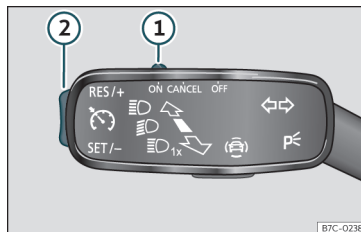

Fig. 155 On the turn signal lever: controls for operating the GRA.
- Move the control»» **Fig. 155 ①** to **ON**.
- Press button»» **Fig. 155 ②** in area **SET/-**.
- Move the control»» **Fig. 155 ①** to **CANCEL** or step on the brake.
- Press button >>> Fig. 155 ② in area RES/+.
While the GRA is set, the stored speed can be adjusted with button >>> Fig. 155 ②:
- To increase in increments of 1 km/h (1 mph) briefly press button >>> Fig. 155 ② in the area RES/+.
- To increase the speed without interruption, keep button >>> Fig. 155 ② pressed down in the area RES/+.
- To reduce in increments of 1 km/h (1 mph) briefly press button >>> Fig. 155 ② in the area SET/−.
- To reduce the speed without interruption, keep button >>> Fig. 155 ② pressed down in the area SET/−.
- Move control >>> Fig. 155 ① to OFF.